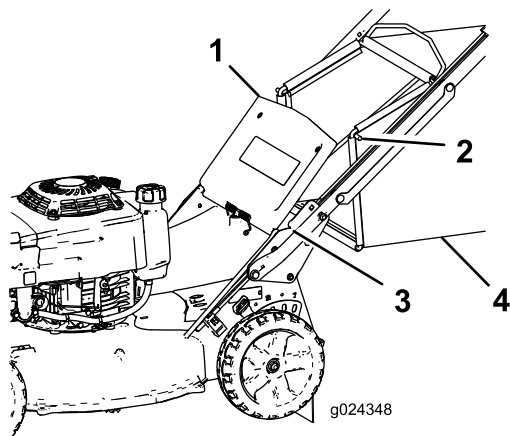

Figure 18
2. Raise and hold up the rear deflector (Figure 18).
4. Install the bag-rod ends into the notches at the base of the handle, and rock the bag back and forth to ensure that the bag-rod ends are seated at the bottom of both notches (Figure 18).
3. Remove the bag rod on the grass bag from the notches at the base of the handle (Figure 18).